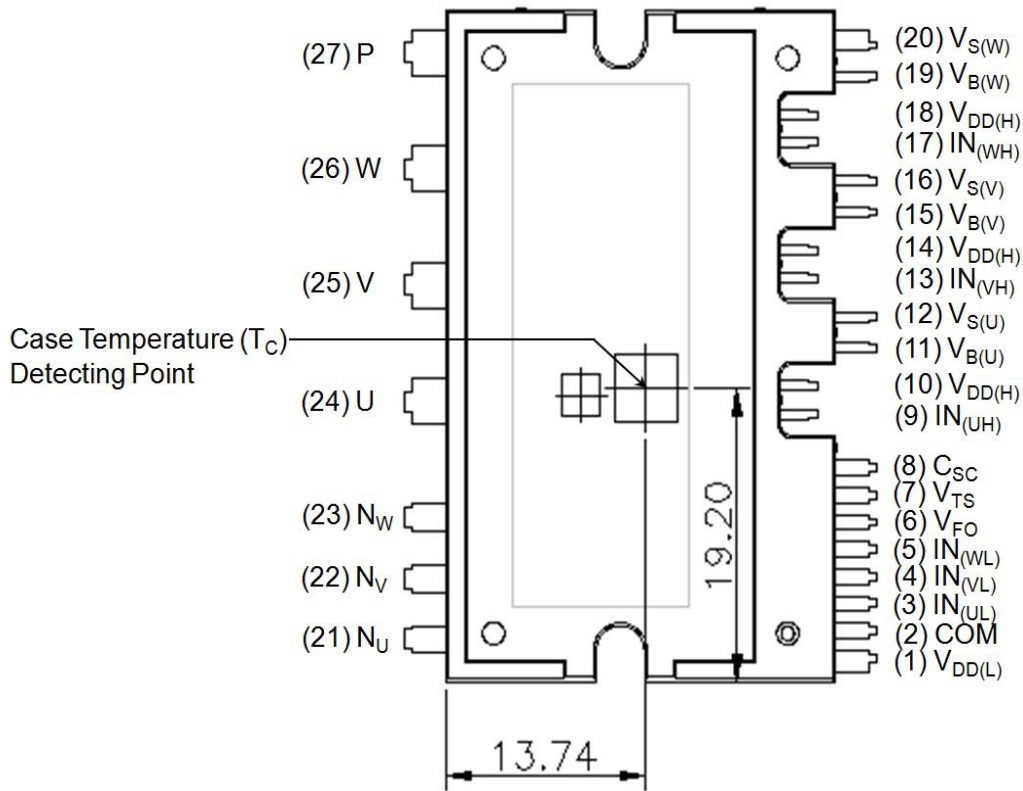

Figure 1. Pin Configuration – Top View
5. For the measurement point of case temperature (T_C), please refer to Figure 1.